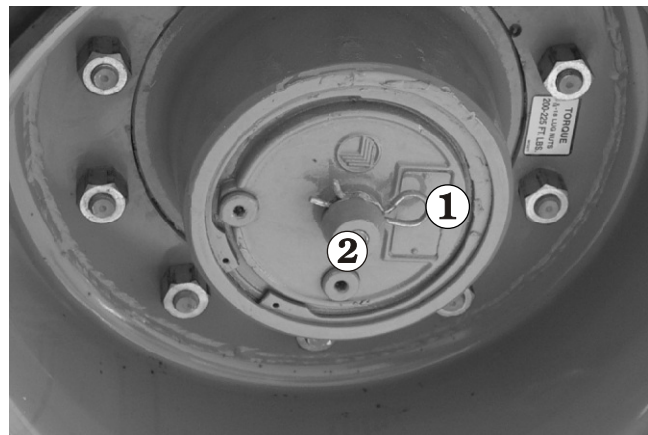

Figure 9.5—Drive Wheel
6. At each drive wheel, remove the 'R' shaped clip^① (refer to Figure 9.5).
7. Push the plunger fully in^②.